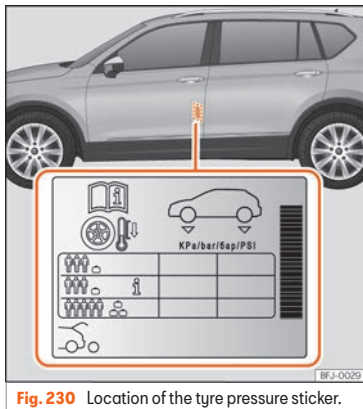

Fig. 230 Location of the tyre pressure sticker.
- Adjust tyre pressure to the load being carried by the vehicle » **Fig. 230**.
The tyre inflation pressures are listed on a sticker on the rear of the front left door frame » **Fig. 230**.
Depending on the vehicle, tyre pressure can be adjusted to medium load to improve driving comfort (tyre pressure **i** » **Fig. 230**). When driving with comfort tyre pressure fuel consumption may increase slightly.
The tyre pressure must be adjusted according to the load the vehicle is carrying. If the vehicle is going to carry the maximum load, the tyre pressure should be increased to the maximum value indicated on the sticker » **Fig. 230**.
In the case of a minimised temporary spare wheel (**i**), inflate to a pressure of 4.2 bar as indicated on the tyre pressure label » **Fig. 230**.
»» Fig. 230.